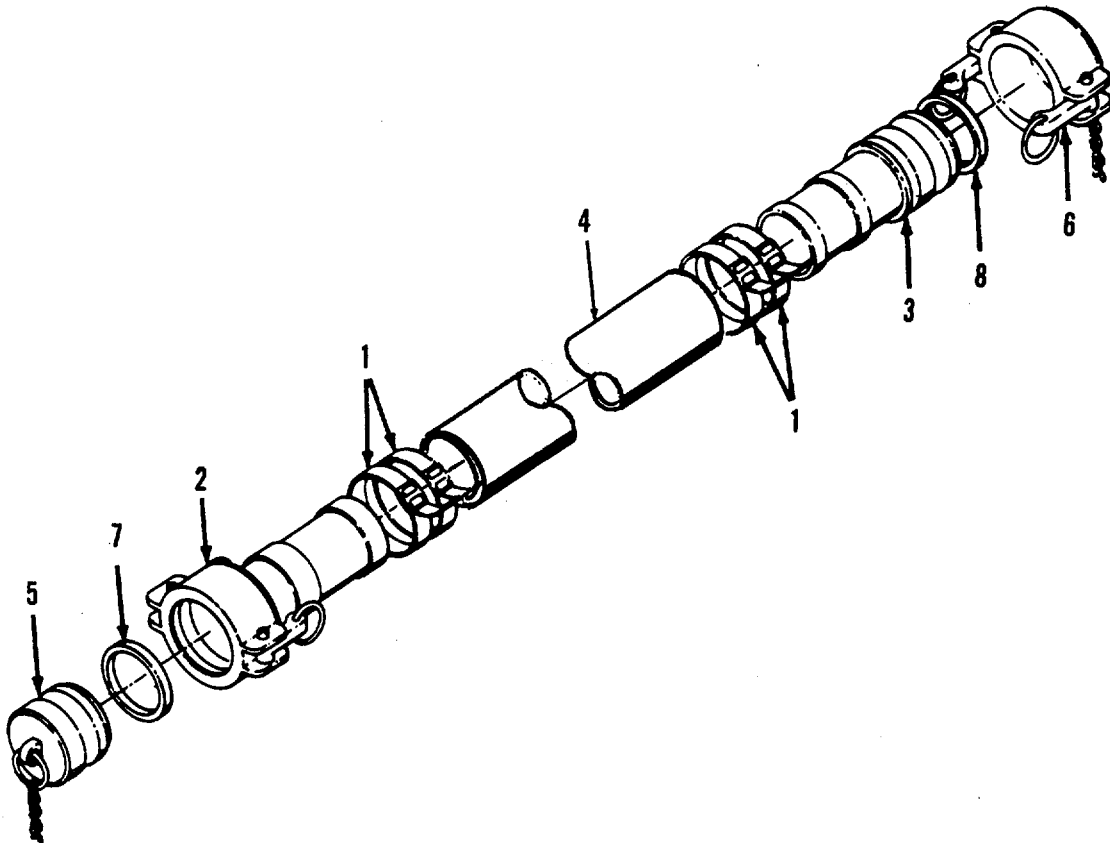

Figure 4-1. Hose Assembly.
Repair. (Refer to Figure 4-1.)
- (2) (Refer to Figure 4-1.) Install new gaskets (8) and (7) into quick disconnect cap (6) and female coupling half (2).
- (3) Install quick disconnect cap (6) onto male coupling half (3).
- (4) Install quick disconnect plug (5) into female coupling half (2).